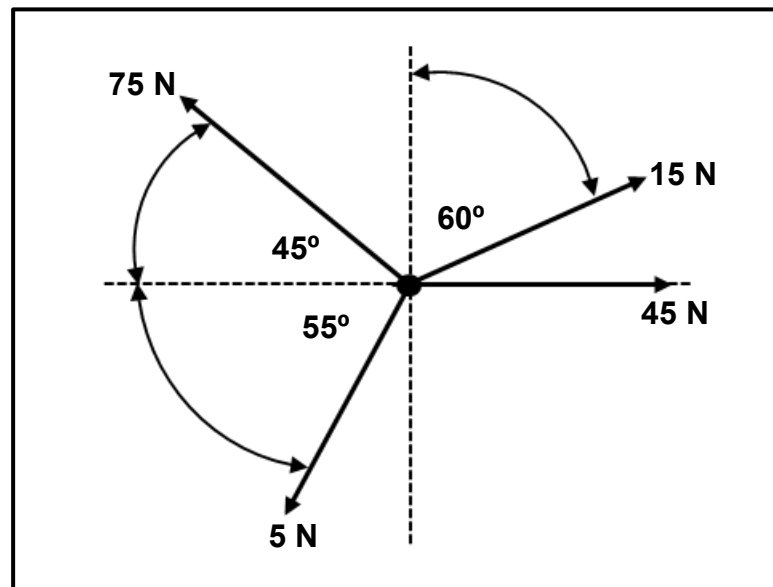

FIGURE 8.1
- 8.1 FIGURE 8.1 below shows a system of forces with FOUR pulling forces acting onto the same point.
HINT: Draw and complete the diagram in FIGURE 8.1 below. Show ALL the horizontal and vertical components before the calculations are done.